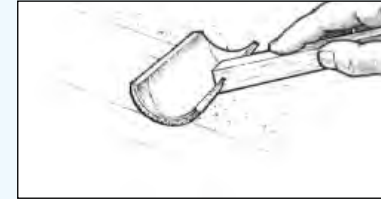

Figure 31 Tip off the coating by dragging a foam roller brush lightly over the fresh epoxy.
8. “Tip off” the coating by dragging a foam roller brush lightly over the fresh epoxy in long, even, overlapping strokes after each batch is applied. Use enough pressure to smooth the stipple, but not enough to remove any of the coating (Figure 31). Alternate the direction in which each coat is tipped off, 1st coat vertical, 2nd coat horizontal, 3rd coat vertical, etc. A WEST SYSTEM 800-3 Roller Cover can be cut into segments to make an excellent “tipping” brush.